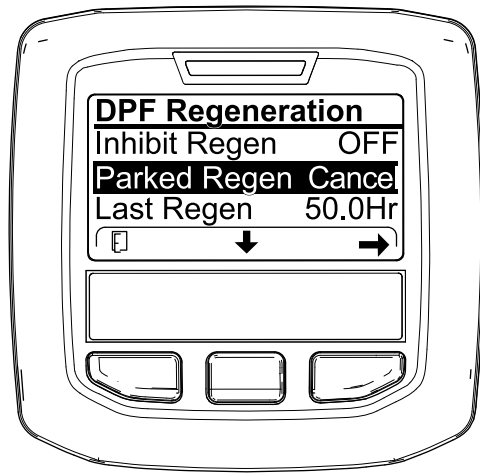
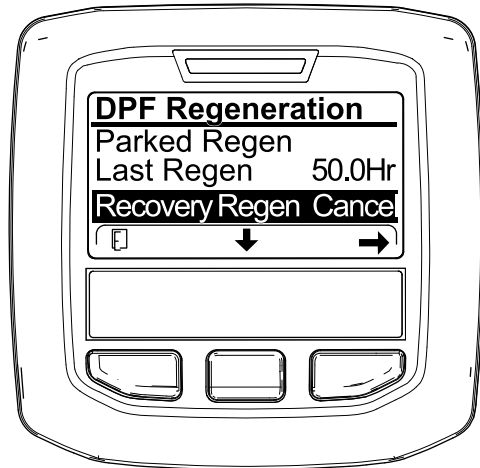

Figure 92
Figure 93
1. Access the DPF Regeneration menu (Figure 92).
2. Press the center button to scroll down to the PARKED REGEN CANCEL (Figure 92) or the RECOVERY REGEN CANCEL option (Figure 93).
3. Press the right button to select the Regen Cancel entry (Figure 92 or Figure 93).